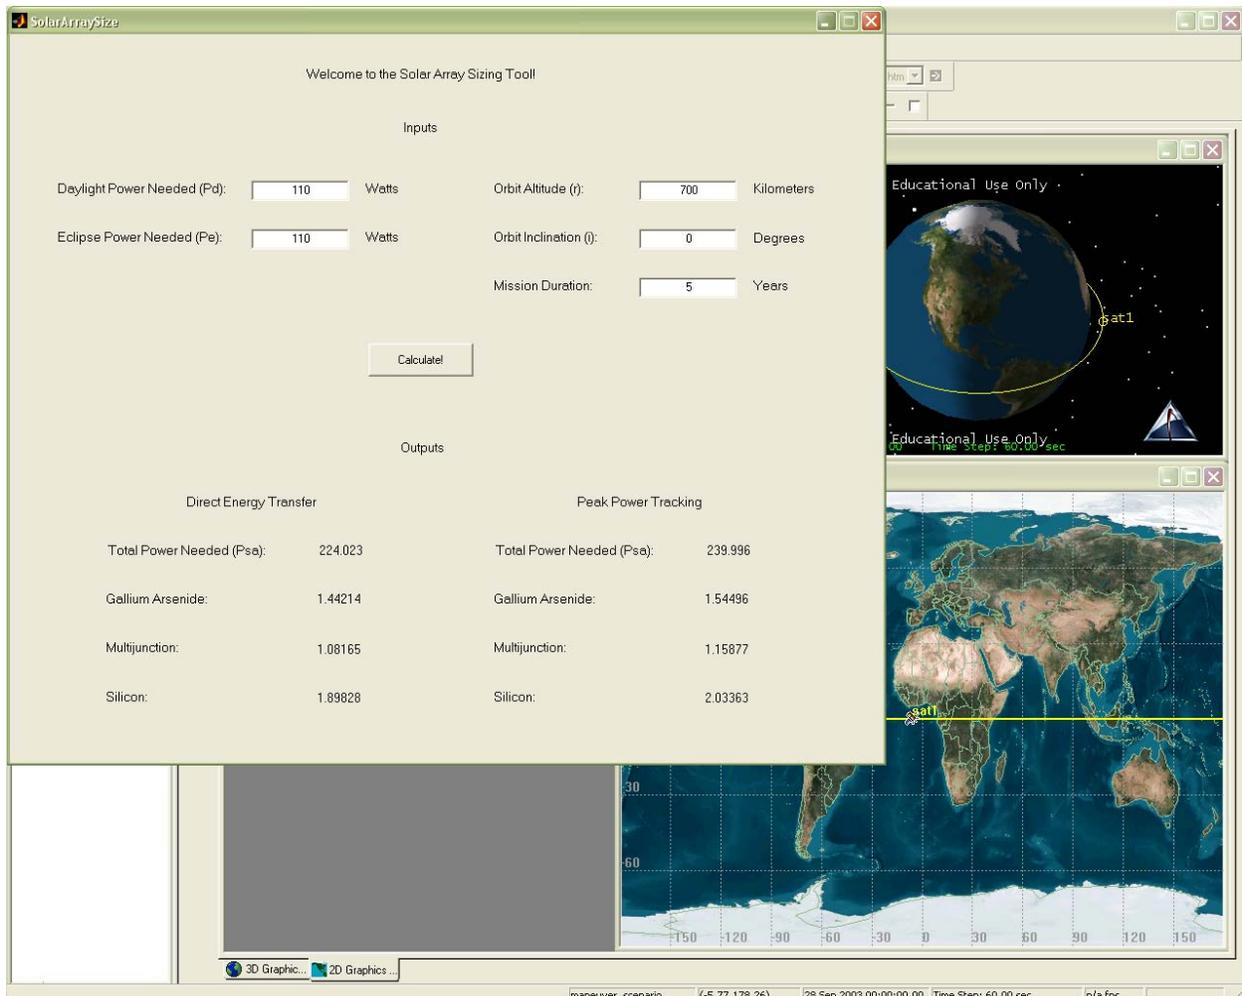

Figure 3. Screen Capture of SolarArraySize Program
The numerical output is also displayed through the GUI after the SolarArraySize program calculates the total power needed and the sizes of the three solar cells for the two different power configurations. The orbit as well as the ground track is displayed in STK in a separate window. An example screen capture of the outputs to the user interface as well as the animation in STK are shown in Figure 3.
The outputs can be compared with one another to determine which materials and/or power regulation configuration best suits the needs of the project. Figure 3 is a screen capture of the GUI and STK interface during the execution of the test run.
- e. Displaying Results: The output parameters are displayed in the output window for the two power configurations as follows: Total Power Needed, Gallium Arsenide Size, Multijunction Size and Silicon Size. For sample output from both STK and the Solar Array Sizing Environment (Matlab window), see Figure 3.